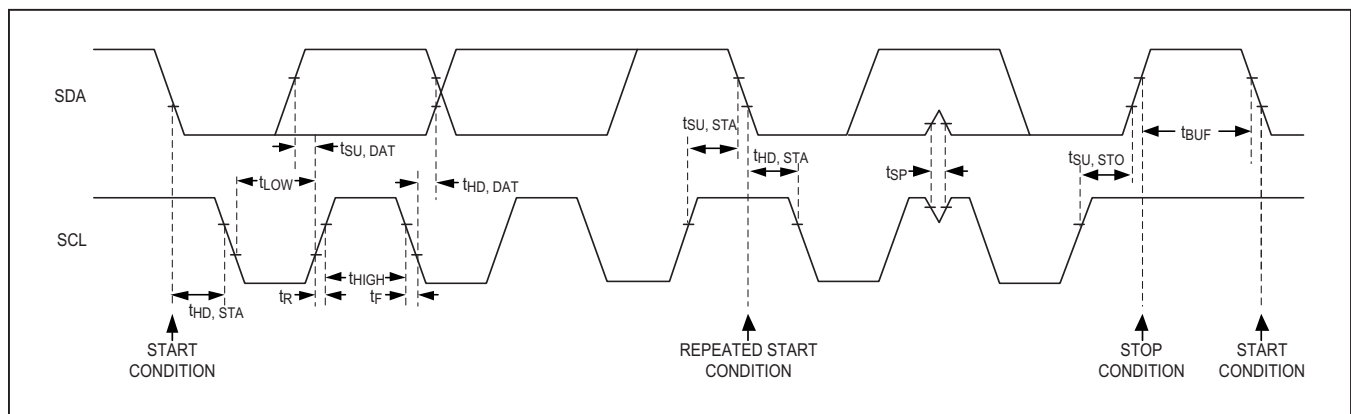

Figure 9. Detailed I2C Timing Diagram
Figure 9 shows the 2-wire interface timing diagram. The master generates SCL and initiates data transfer on the bus. The master device writes data to the MAXM86161 by transmitting the proper slave address followed by the register address and then the data word. Each transmit sequence is framed by a START (S) or REPEATED START (Sr) condition and a STOP (P) condition. Each word transmitted to the MAXM86161 is 8 bits long and is followed by an acknowledge clock pulse. A master reading data from the MAXM86161 transmits the proper slave address followed by a series of nine SCL pulses. The MAXM86161 transmits data on SDA in sync with the master-generated SCL pulses. The master acknowledges receipt of each byte of data. Each read sequence is framed by a START (S) or REPEATED START (Sr) condition, a not acknowledge, and a STOP (P) condition. SDA operates as both an input and an open-drain output. A pullup resistor is required on SDA. SCL operates only as an input. A pullup resistor is required on SCL if there are multiple masters on the bus, or if the single master has an open-drain SCL output. Series resistors in line with SDA and SCL are optional. Series resistors protect the digital inputs of the MAXM86161 from high voltage spikes on the bus lines, and minimize crosstalk and undershoot of the bus signals.
The detailed timing diagram of various electrical characteristics is shown in Figure 9.